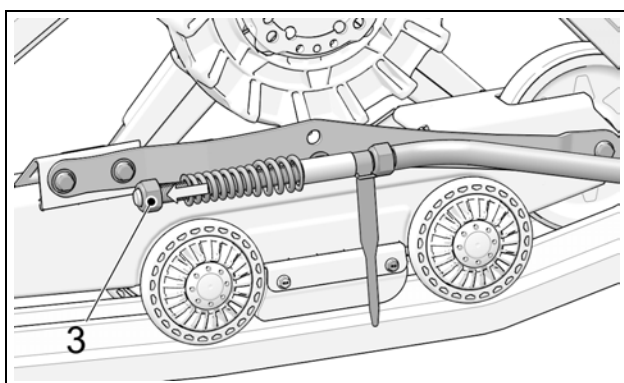

Figure 10
- Loosen the nut (3) compressing the spring of the stabilizing rod. See Figure 10.